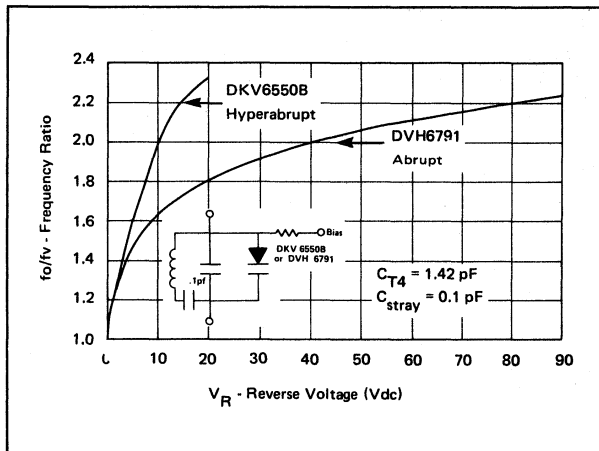

Figure 8-2. Frequency Ratio vs. Voltage for Hyperabrupt and Abrupt Diodes
- We mentioned linear tuning for hyperabrupts. Figure 8-2 shows curves for a simple tank circuit, using a DKV6550B hyperabrupt and an abrupt junction, DVH6791, a 90 volt diode.